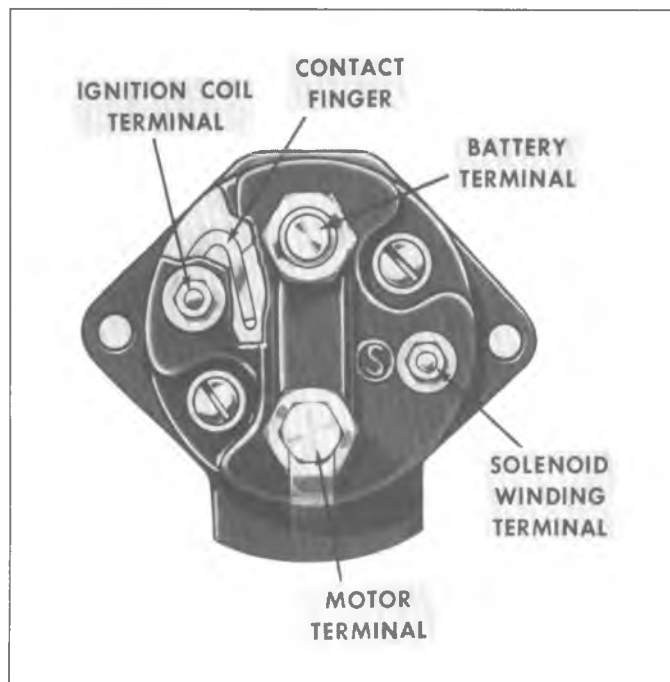

Fig. 12s—Solenoid Contact Finger
On most vehicle starting motors, a contact finger (Fig. 12s) touches the contact disc when the solenoid is in the cranking mode of operation. The contact finger is connected to the ignition coil terminal or (R) terminal on the solenoid, which in turn is connected directly to the ignition coil. This feature by-passes the ignition resistor and provides more available ignition voltage during cranking.